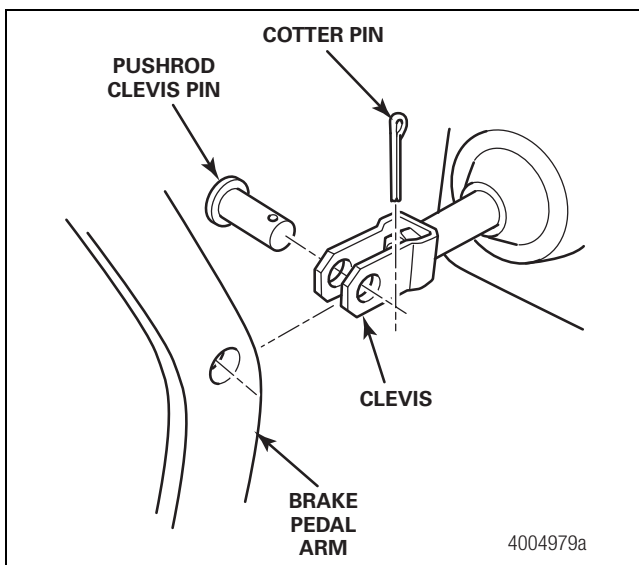

Figure 6
13. Disconnect the master cylinder pushrod clevis pin from the brake pedal. Figure 6.